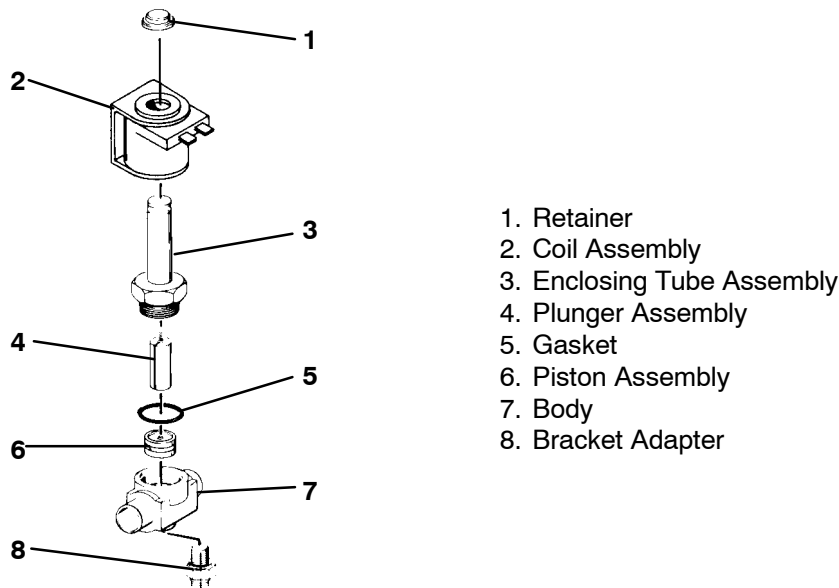

Figure 8-23. Solenoid Valves - Alco
b. Replacing Solenoid Valve Internal Parts (See Figure 8-23)